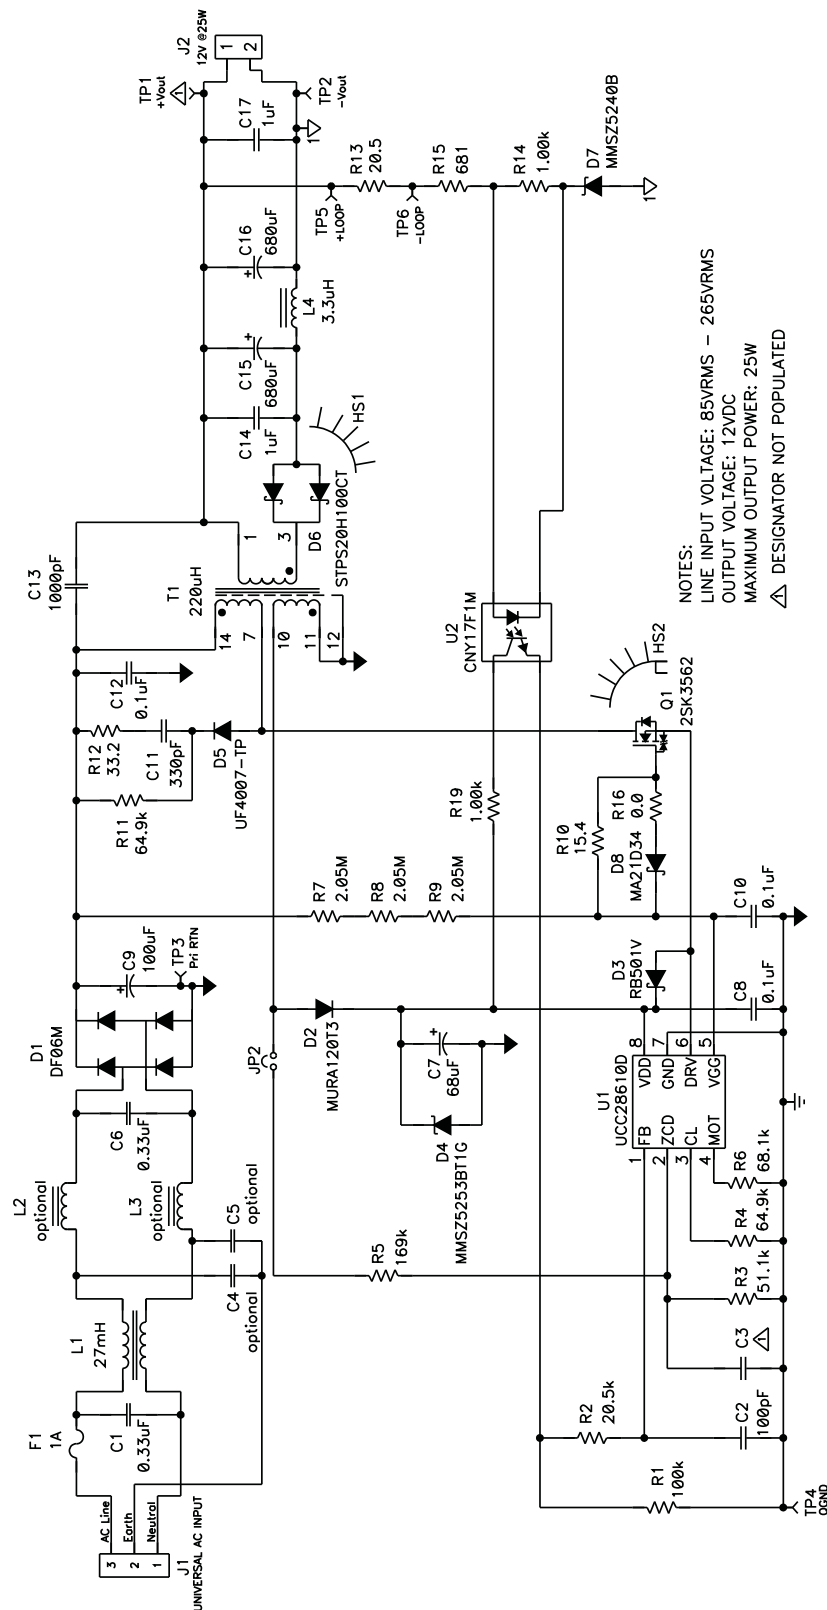
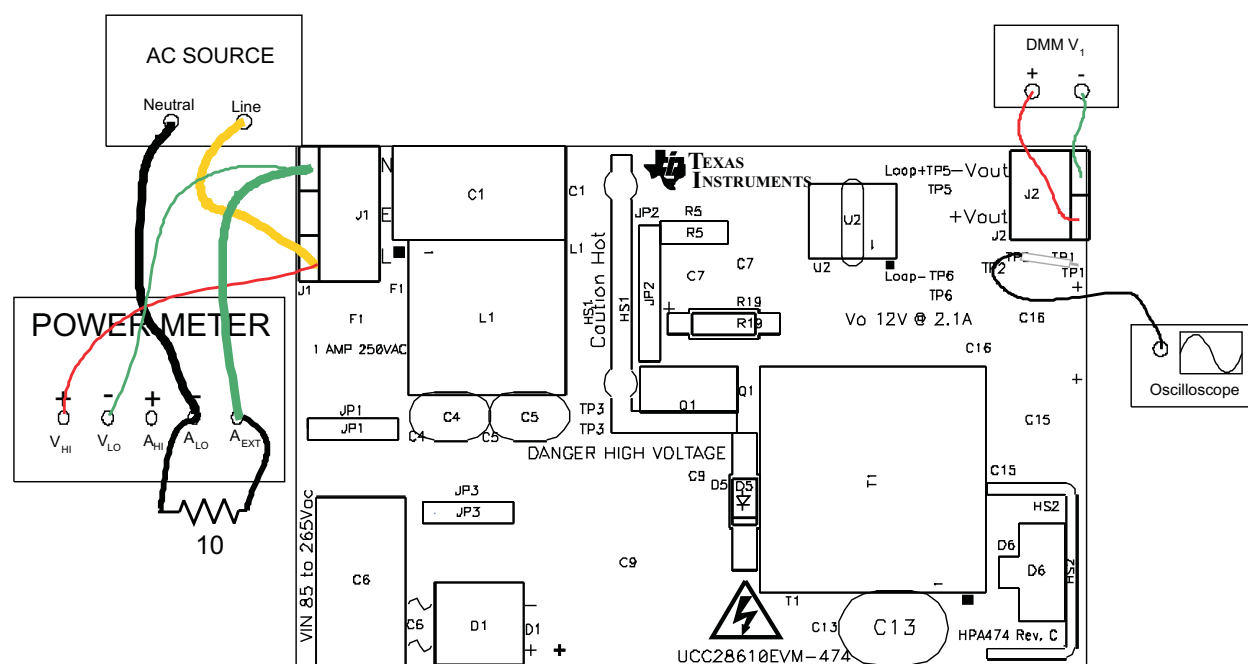
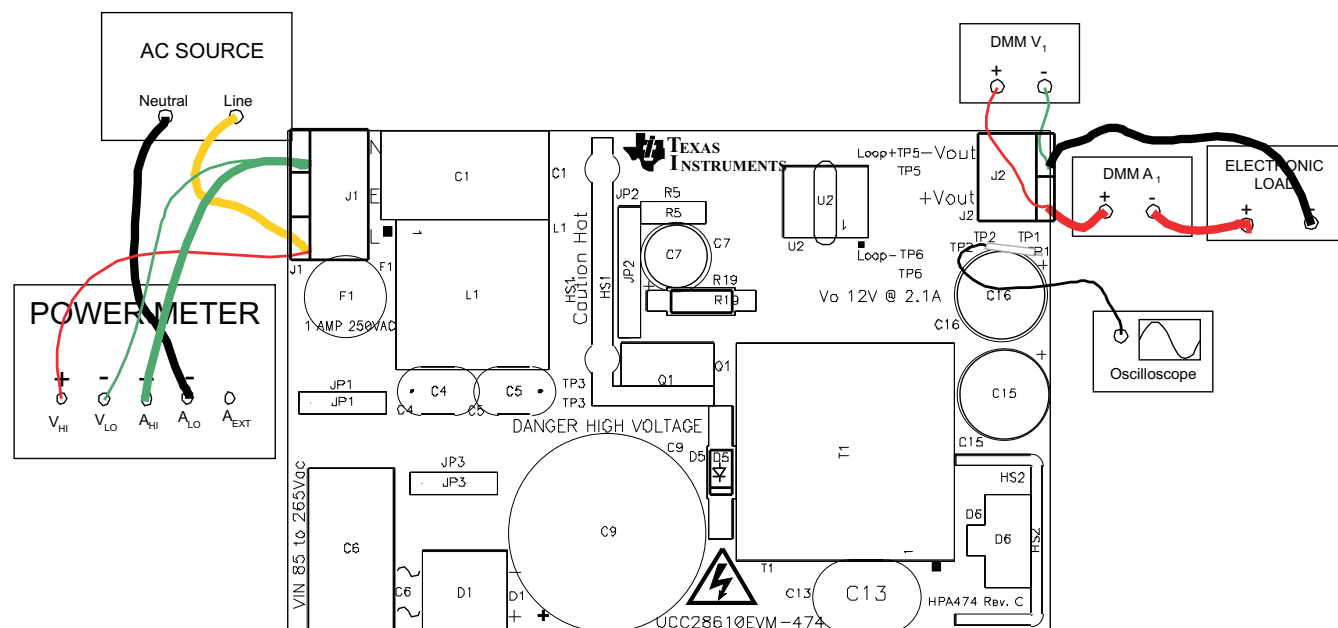

Figure 2. UCC28610EVM-474 Schematic
Figure 3. UCC28610EVM-474 Recommended Test Set Up Without a Load
Figure 4. UCC28610EVM-474 Recommended Test Set Up With a Load
Figure 2 shows the equipment set up when measuring the input power consumption during no load. Note the addition of the 10- Ω shunt resistor in Figure 3. During the no-load test, the power analyzer should be set for long averaging in order to include several cycles of operation and an appropriate current scale factor for using the external shunt must be used. Figure 3 shows the basic test set up recommended to evaluate the UCC28610EVM-474 with a load.
See Figure 3 and Figure 4 for recommended test set ups.
- **AC Input Source:** The input source shall be an isolated variable AC source capable of supplying between 85 V_{RMS} and 265 V_{RMS} at no less than 30 W and connected as shown in Figure 3 and Figure 4. For accurate efficiency calculations, a power meter should be inserted between the neutral line of the AC source and the Neutral terminal of the EVM. For highest accuracy, connect the voltage terminals of the power meter directly across the Line and Neutral terminals of the EVM.
- **Load:** For the output load, a programmable electronic load set to constant current mode and capable of sinking 0 to 3 A_{DC} at 12 V_{DC} shall be used. For highest accuracy, V_{OUT} can be monitored by connecting a DC voltmeter, DMM V₁, directly across the +V_{out} and –V_{out} terminals as shown in Figure 3 and Figure 4. A DC current meter, DMM A₁, should be placed in series with the electronic load for accurate output current measurements.
- **Power Meter:** The power analyzer shall be capable of measuring low input current, typically less than 10 mA, and a long averaging mode if low power standby mode input power measurements are to be taken. An example of such an analyzer is the Voltech PM100 Single Phase Power Analyzer. To measure the intermittent bursts of current and power drawn from the line during no-load operation, an external 10- Ω shunt, with a current scale factor of 10 A/V, was used at a high sample rate over an extended period of time in order to display the averaged results (refer to Figure 3).
- (a) If no-load input power measurements are to be made, set the power analyzer to long averaging and external shunt mode. Insert a shunt, such as a 10- Ω resistor as shown in Figure 3, in series with the Neutral terminal of the EVM. Set the appropriate current scale on the power analyzer.
- (b) For operation with a load, as shown in Figure 4, set the electronic load to constant current mode to sink 0 A.
1. Use the test set up shown in Figure 3.
- (a) Use the test set up shown in Figure 4.